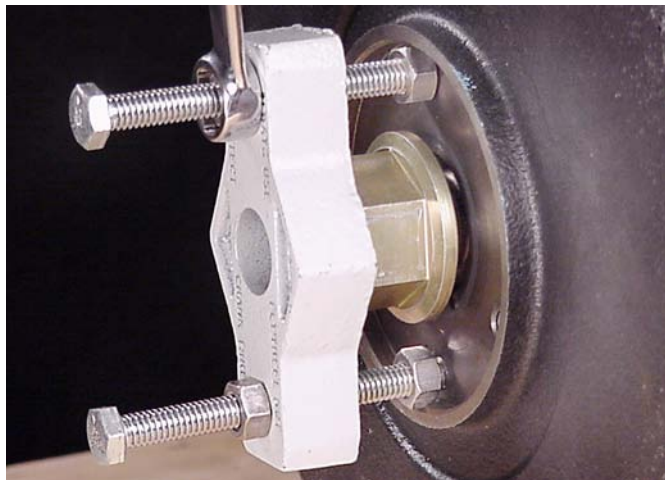

Fig. 51
6. Tighten puller nuts equally until flywheel loosens, Fig. 51.